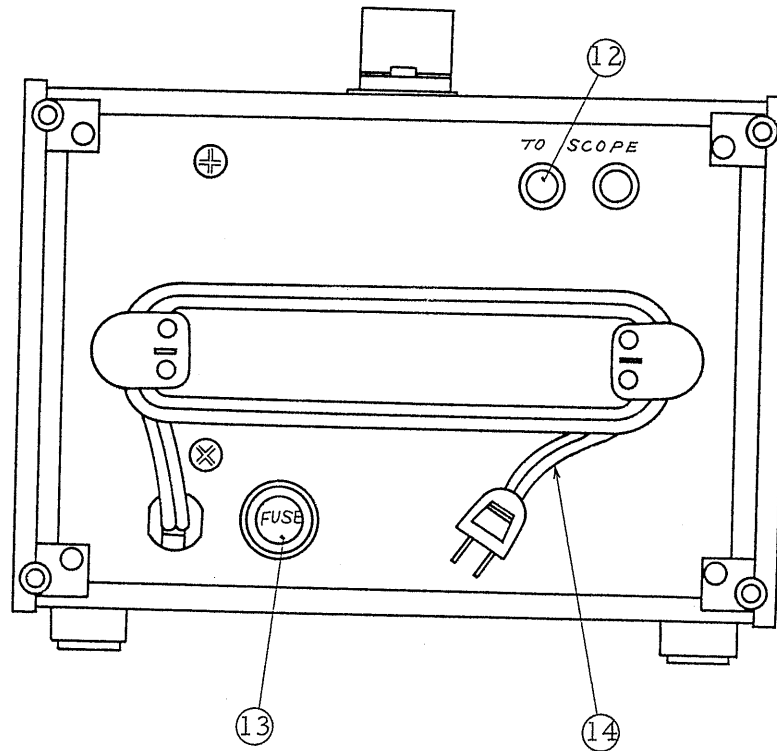

Fig. 3-2 Rear Panel
- ⑧ WOW % Indicator      Meter which gauges wow and flutter. The upper dual-range black scale is for effective value (RMS) and the lower dual-range red scale is for peak value (PEAK). The divisions of 1.0 and 3.0 shown on the full scales correspond to the meter ranges.
- ⑨ TAPE SPEED Indicator      The center frequency of test signals is indicated by this meter. Since tape speed is proportional to playback frequency, it is identified directly on meter. The frequency range is within  $3 \text{ kHz} \pm 5\%$  (150 Hz).
- ⑩ 3 kHz OUTPUT      Terminals for picking up 3 kHz output signal as standard recording source signal. GND terminal has been connected to the case.
- ⑪ STAND      If meter position is too low for reading tilt stand in upright position.
3.2 Rear panel description ( See Fig. 3-2 )
- ⑫ TO SCOPE                      The waveform and period of wow and flutter can be observed by connecting an oscilloscope to this terminal. The black terminal is previously connected to the case. The output impedance is approx. 50k $\Omega$ .
- ⑬ FUSE                              A glass-tube fuse of 0.5A is set in fuse holder used for AC line.
- ⑭ Power Cord                      Connected to 50/60 Hz AC outlet.